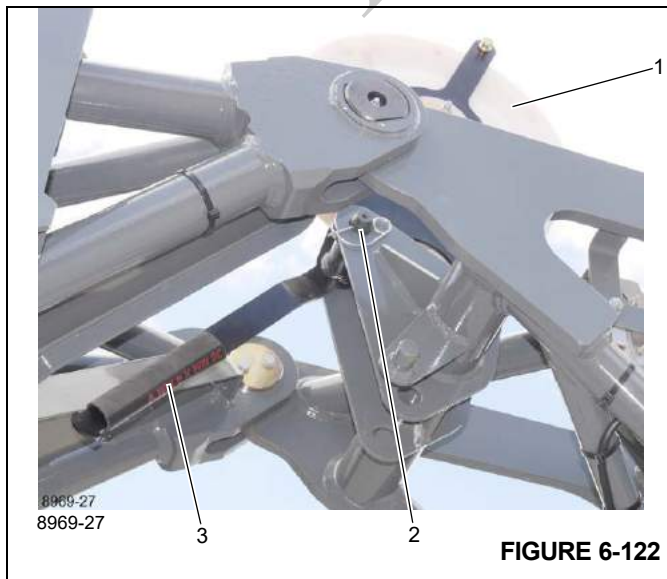

FIGURE 6-122
3. Fold the deflection sheave (1) up and fasten it in this position with the pin (2), (Figure 6-122).
4. Secure the pin (2) using the retaining clip.
1. Remove the retaining clip from the pin (2), (Figure 6-122).
2. Hold the deflection sheave by the handle (3) and pull out the pin (2).
3. Fold the deflection sheave (1) down and fasten it in position with the pin (2).